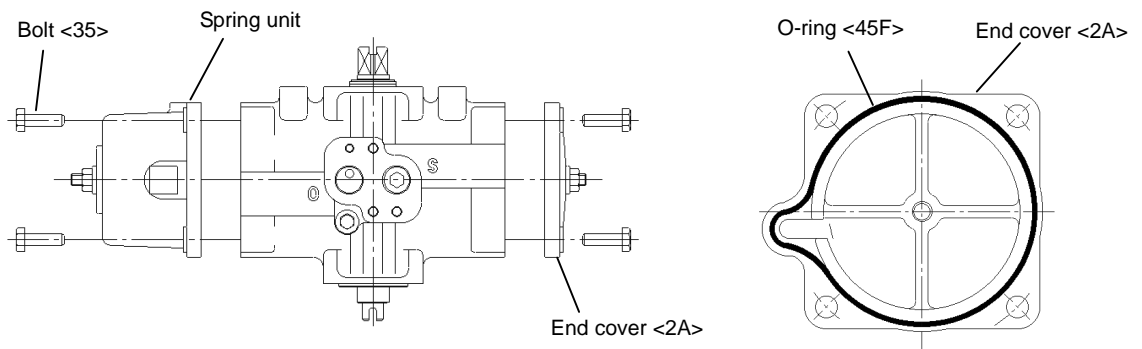

Fig.8
(6) Loosen bolts and remove the end cover and the spring unit. O-rings are placed inside the end cover and the spring unit (Fig.8).